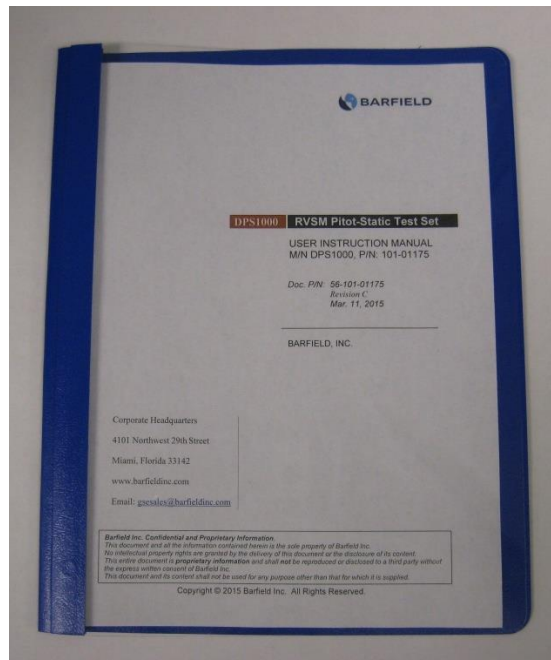

Figure 12 Instruction Manual, P/N 56-101-01175
- (1) Instruction Manual P/N 56-101-01175, see Figure 12.